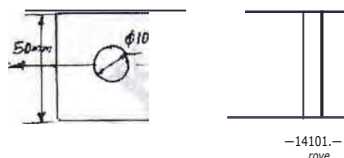

Fig. Q2 (b)
- b. Determine the safe load that can be carried by a bar of rectangular cross section shown in Fig. Q2 (b) limiting the maximum normal stress to 130 MPa taking stress concentration into account. (08 Marks)